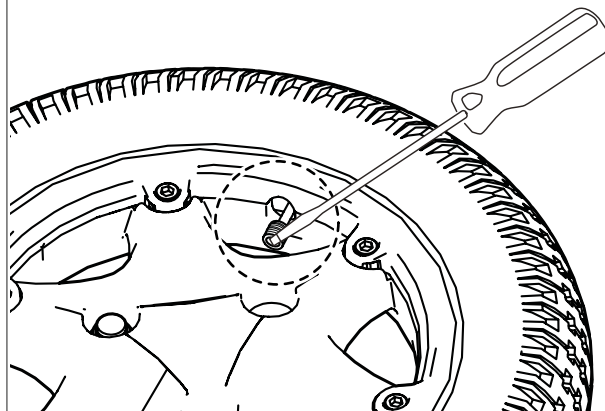

Fig. 8.5
- There are 6 rim studs that must be loosened/tightened (Fig.8.5).
- Use a 5.0 mm Allen key to release/tighten the studs. (Fig. 8.5).
- Tighten the studs as shown in Fig.8.5